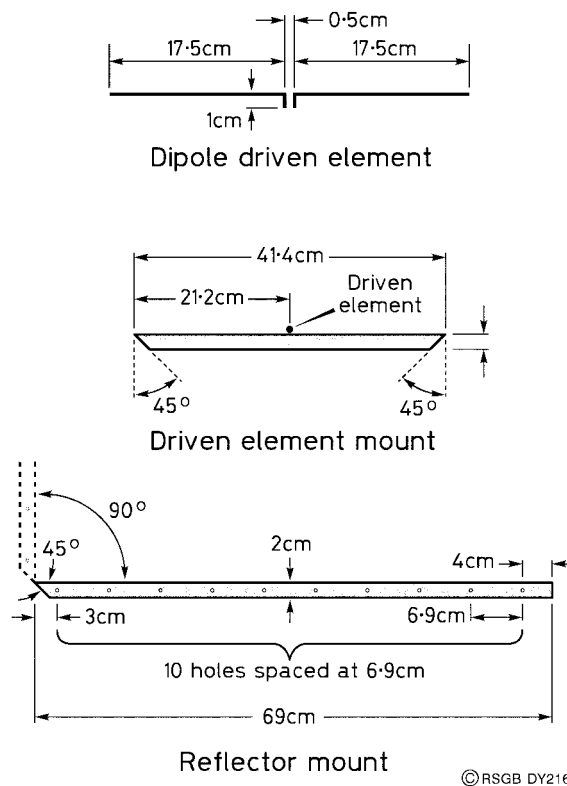

Figure 2 Driven element dimensions, together with boom dimensions for driven element and reflectors
The reflector consists of a number of 0.6λ rods, spaced from each other by 0.1λ . The aerial frame can be made of metal or wood, but wood is easier to work with, and mounting the elements to the frame is simpler. The prototype was made with wood of 20 mm by 15 mm cross-section, as **Figure 2** shows. The wood was varnished for protection. The elements were made from 1.5 mm diameter copper wire, because a large reel of the wire happened to be available. The wire diameter is not critical; tubing could be used just as successfully. 14 SWG hard-drawn copper aerial wire would be even better than that used in the prototype.
- Cut the booms for the reflectors, as shown in Figure 2. A mitre block is invaluable here in producing the 45° corners.